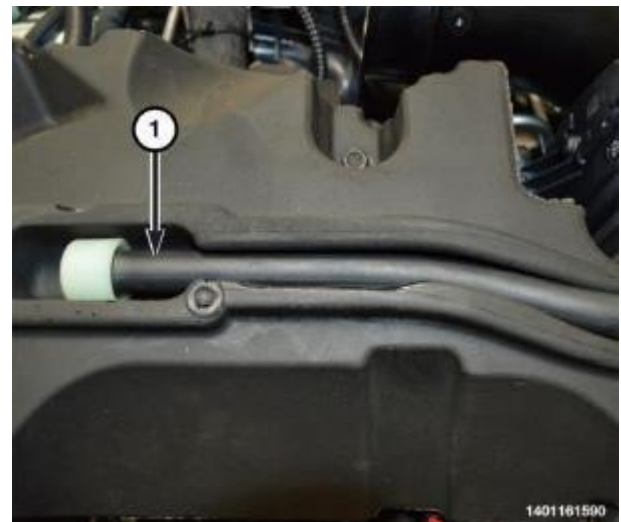

Figure 153 – Left Bank Fuel Rail Cover
17. Remove the vent hose (1) from the left fuel rail cover (Figure 153).